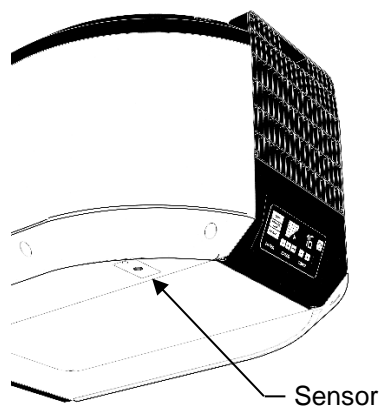

Figure 8-3
**NOTE:** For best performance in AUTO mode, allow adequate air flow to the sensor on the bottom of the unit (see Fig. 8-3).
Dust may accumulate on the sensor (see Fig. 8-3) and affect the performance in AUTO mode. Sensor may be cleaned with a dry cloth or compressed air.